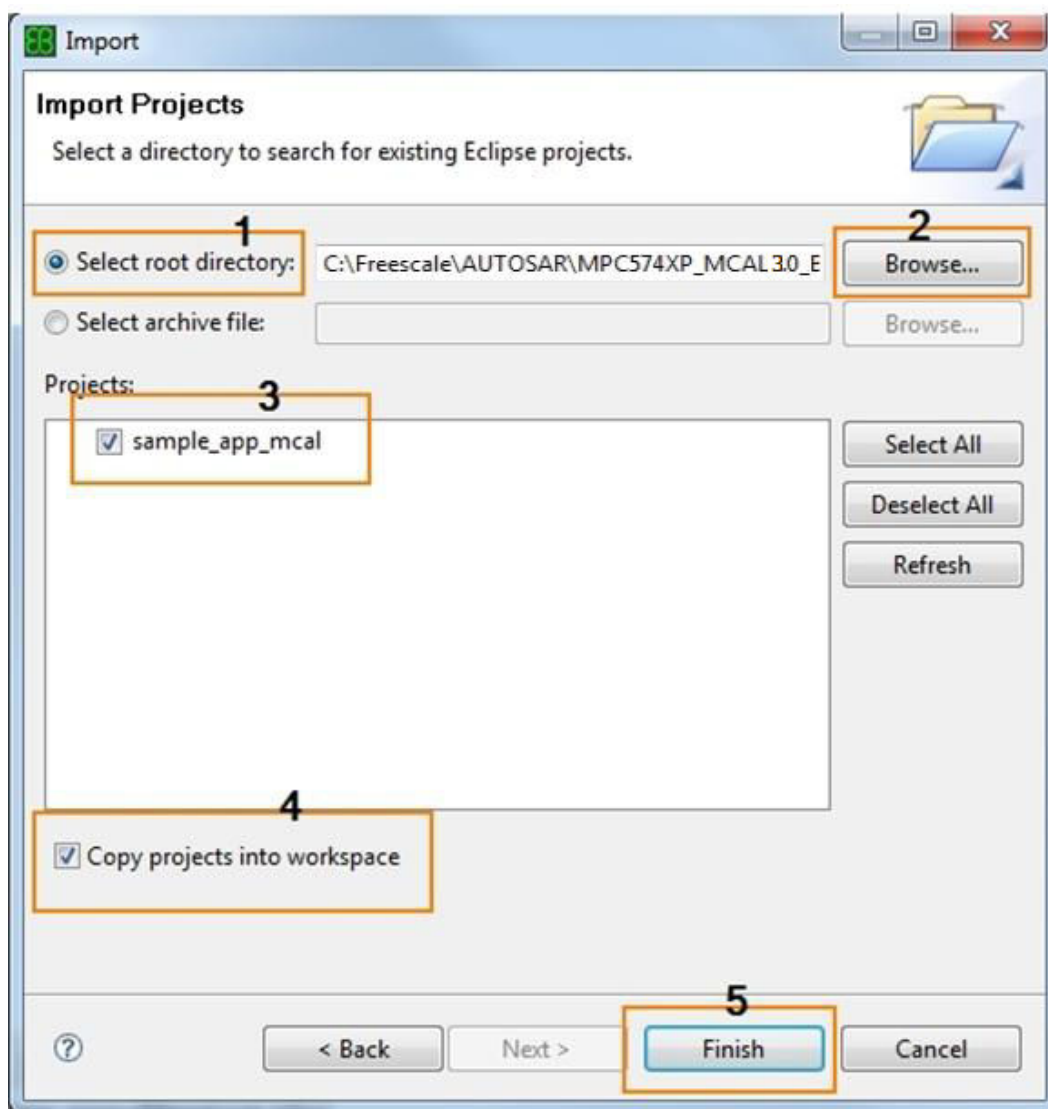

Figure 4-4. Import Window - the Second View
- c. Next steps are depicted in Figure 4-4. Import Window - the Second View